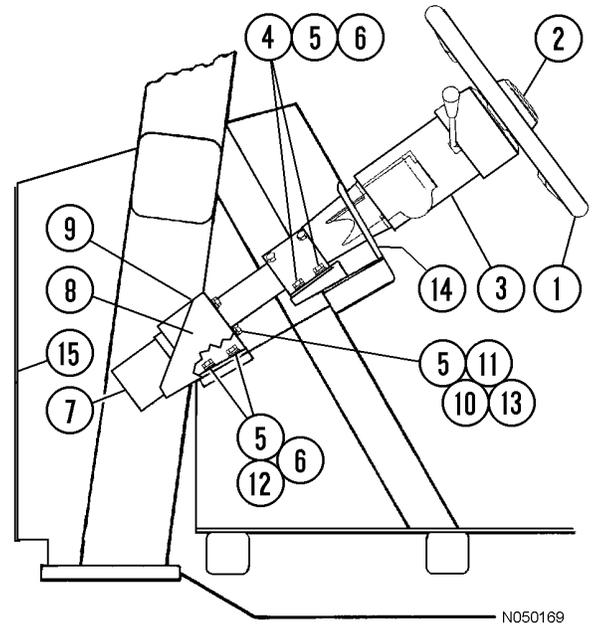

FIGURE 5-2. STEERING COLUMN INSTALLATION
3. Remove access cover (15, Figure 5-2) from the front of the cab.
1. Insert capscrew (10, Figure 5-2) with lockwashers (11) and flat washers (5) through brackets (8) and (9), then through the steering column flange. Add second flat washer (5) and nut (13) to each capscrew to hold the parts together. Tighten the nuts securely.
2. Slide the entire assembly down the tapered blocks until brackets (8) and (9) contact the mounting surface in the cab. Install capscrews (4) and (12) with flat washers (5) and lockwashers (6). Tighten capscrews (4) only.
3. Inspect brackets (8) and (9) to see whether they contact the mounting surface evenly and are flat and inline with the surface. If they are, tighten capscrews (12). If brackets are not quite parallel, install flat washers as needed between the brackets and mounting surface to eliminate any gaps. Tighten capscrews (12) to the standard torque.
4. After capscrews (4) and (12) are tightened to the standard torque, remove nuts (13) and flat washers (5) that were holding the steering column to the two brackets. Do not remove capscrews (10) from the brackets.